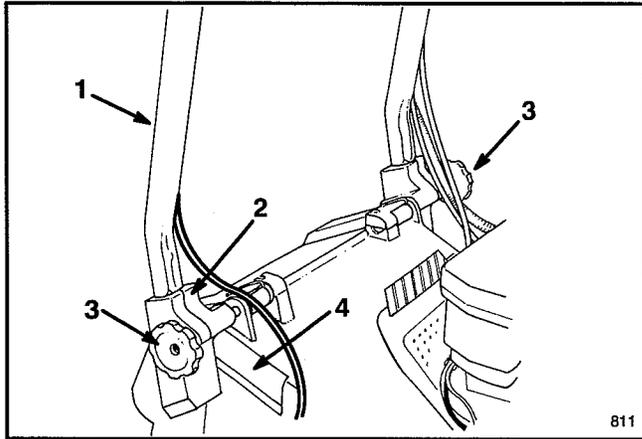
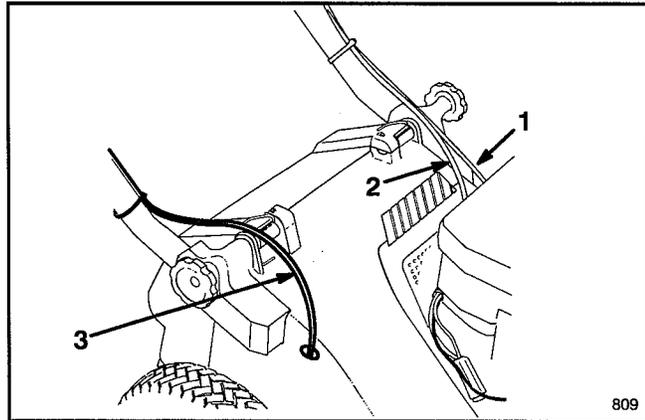

Figure 1
Figure 2
1. **INSTALLING HANDLE**—Loosen knobs on mounting brackets (Fig. 1).
3. Slide handle ends into holes in mounting brackets until handle ends are completely seated in brackets (Fig. 1). Make sure cables rest on top of mounting brackets (Fig. 2).
4. Rotate handle and brackets rearward until brackets fit securely into housing pockets (Fig. 2).